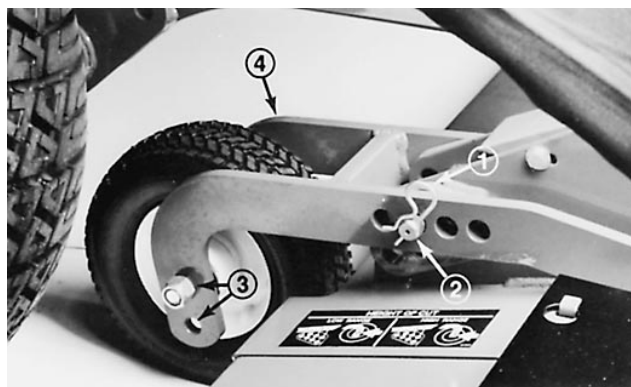
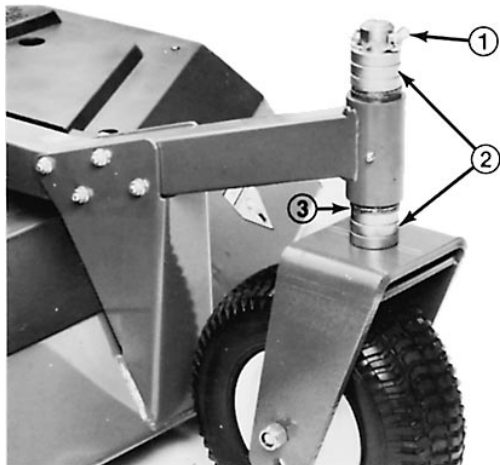

Figure 9
Figure 10
3. On the front cutting unit, remove the hairpin cotter and clevis pins from the rear castor pivot arms (Fig. 9). Align the pivot arm holes with selected height-of-cut bracket holes in the deck frames, insert the clevis pins and install the hairpin cotters (Fig. 9).
4. On all remaining castor wheel assemblies, remove the lynch pin from the castor fork shafts (Fig. 10).
Remove the castor fork shaft and spacer assembly from the castor arm (Fig. 10). Place spacers onto the castor spindle to the desired height-of-cut setting and install the castor fork shaft in arm (Fig. 9). Install the remaining spacers onto the shaft and secure the assemblies with the lynch pin (Fig. 10).